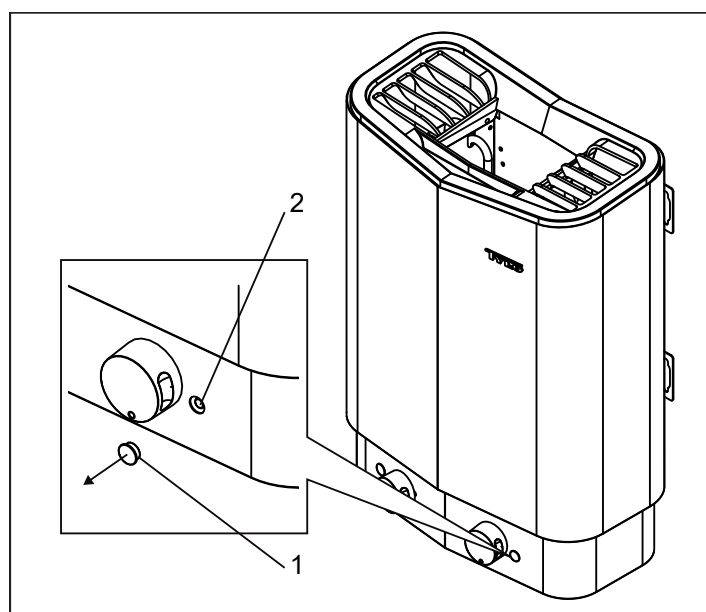

Figure 5: Resetting the temperature cut-out
| The heater is not working.                                                                                          | The internal temperature cut-out has been activated. For more information, see the Temperature cut-out section. | Check and fix the cause of the temperature cut-out activation. Resetting the temperature cut-out. There is a red button underneath a cover plug on the front of the heater, which can be pressed in (see Figure 5). |
The temperature cut-out in the heater is there to protect the components, tubular elements and woodwork in the sauna from overheating. If the temperature cut-out is triggered, it must be reset before the heater can be turned on again. The cause of the overheating must be established before resetting the temperature cut-out. To reset the temperature cut-out, remove the cover plug (1) (see Figure 5) and depress it (2) until it clicks.